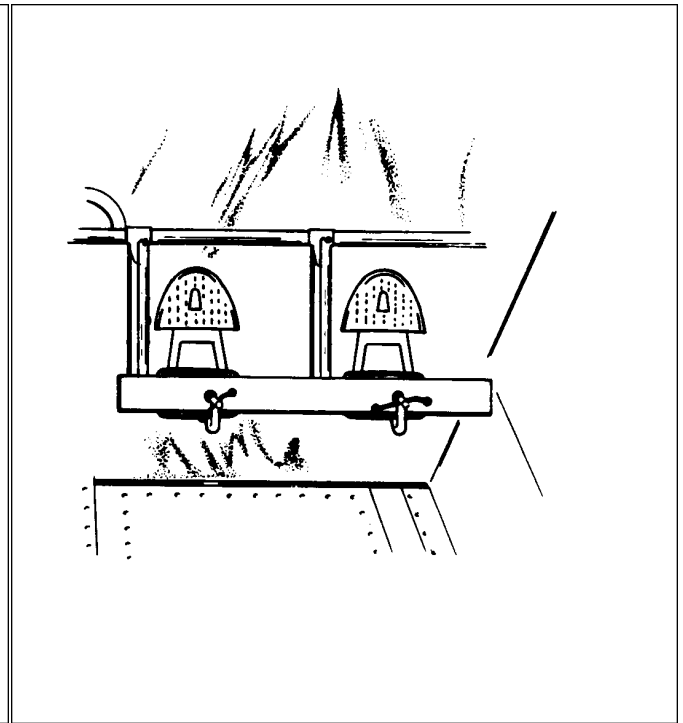

Figure 5-12. Clamping Rudder Pedals
3. Swing the rudder in the other direction and check the travel as directed in step 2. Should the rudder travel be incorrect, showing a gap between the tool and any part of the control surface, the tail cone fairing should be removed and the stop reset to obtain the correct rudder travel. (Refer to Figure 5-12.)